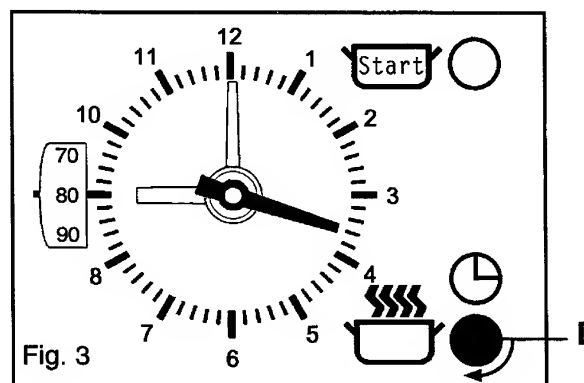

Fig. 3
Turn setting knob (D) clockwise, **without pulling it out**. The selected minutes can be seen in the display window, e.g. 80 minutes as Fig. 3.